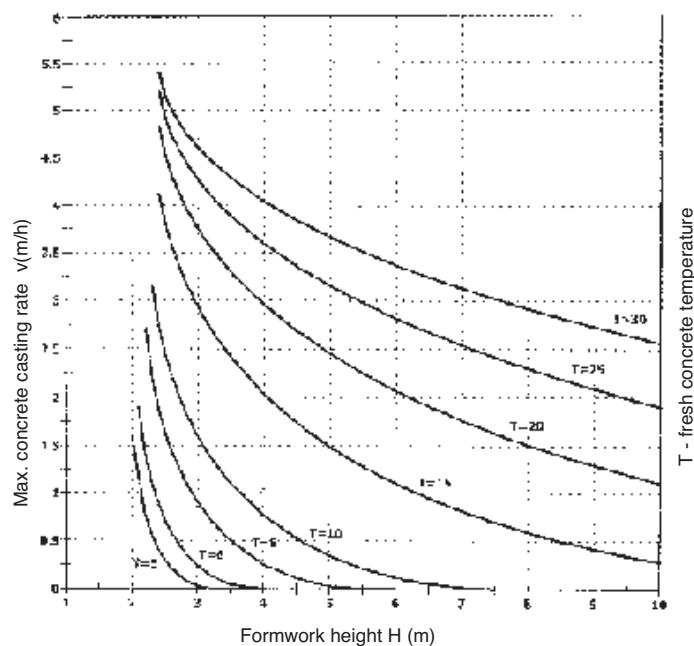

Fig. 9.1
- Fig. 9.1 is for wall concrete casting rate (with the use of MIDI BOX formwork) and concrete with retarders.